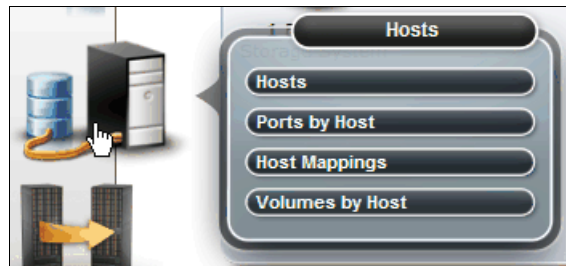

Figure 9-11 Hosts menu
1. Hover the cursor over the host type icon. The Hosts menu opens (Figure 9-11). Click **Hosts**.